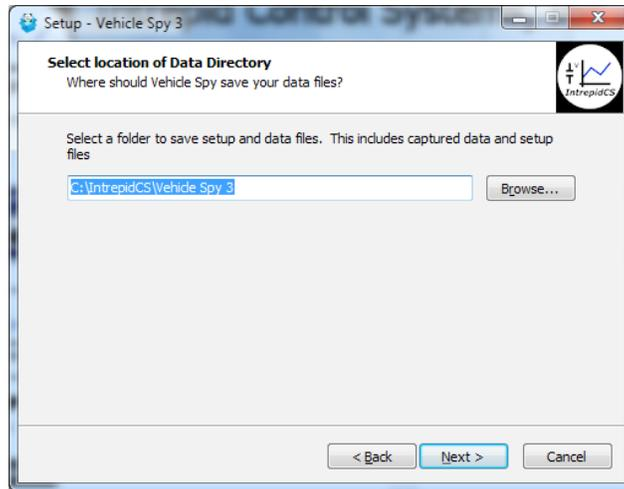

Figure 23: Selecting the Data Directory Location.
8. **Select Data Directory Location:** Next, choose where you want Vehicle Spy 3 to store its data files. We recommend sticking with the provided default, `C:\IntrepidCS\Vehicle Spy 3` (Figure 23). Click  to continue.